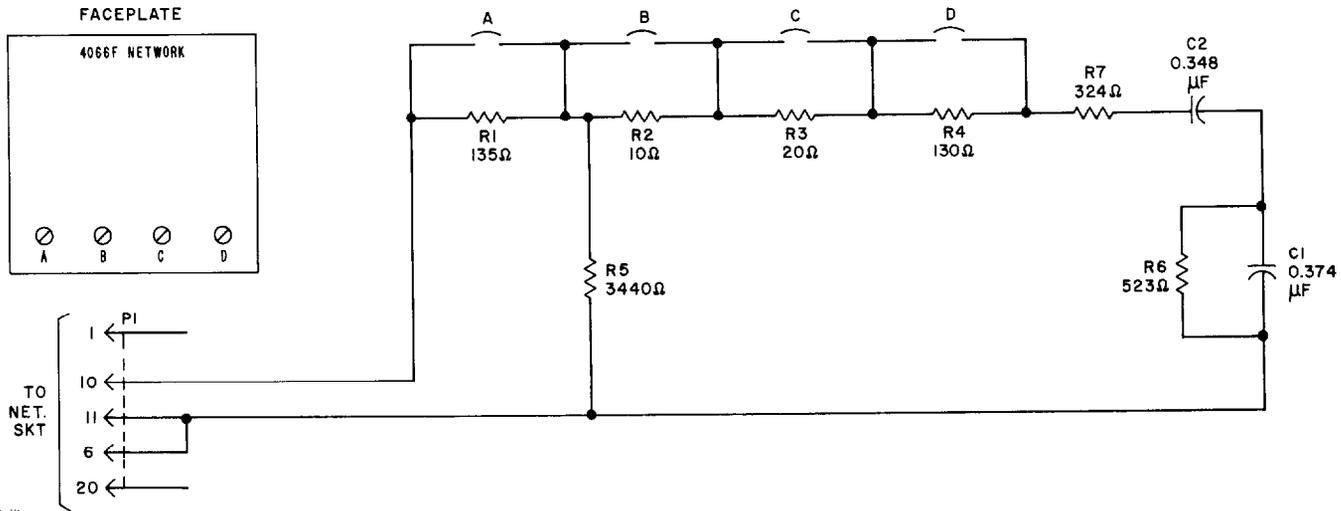

Fig. 2 — 4066F Network — Schematic
2.02 The four screw-type switches are identified on the faceplate by the letters A, B, C, and D. The circuit location and function of the switches are illustrated in Fig. 2.
3.01 Fig. 2 is a schematic of the 4066F network. The circuit consists of seven resistors, two capacitors, and four screw-type switches arranged to provide an adjustable impedance across terminals 10 and 11.